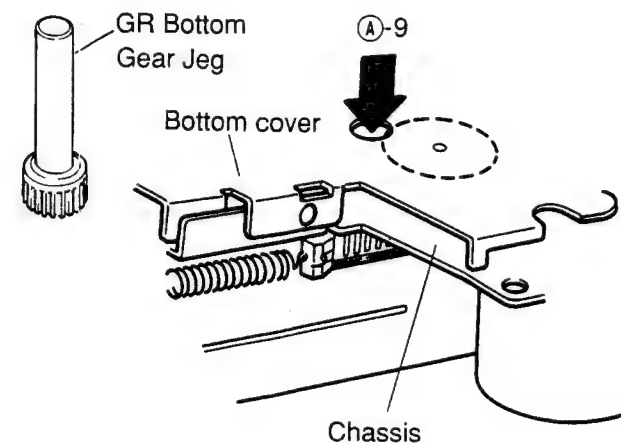

Figure 4
- (12) Since the hooks marked ⑤-8 will be lifted slightly as shown in Figure 4, insert the jig through the hole ⑤-9, and fix it turning the jig slightly in the direction ⑤-11.
(Refer to Figures 4 and 5.)
- (14) Insert the jig into the hole ⑤-9 as shown in Figure 4 and rotate the eject solenoid counterclockwise about 20 times, pulling it in the direction ⑤-10 with the finger. Then the eject operation is completed.
Instead of operation (14), the eject operation can be performed by mounting the mechanism to the product. (Refer to Figures 4 and 5.)